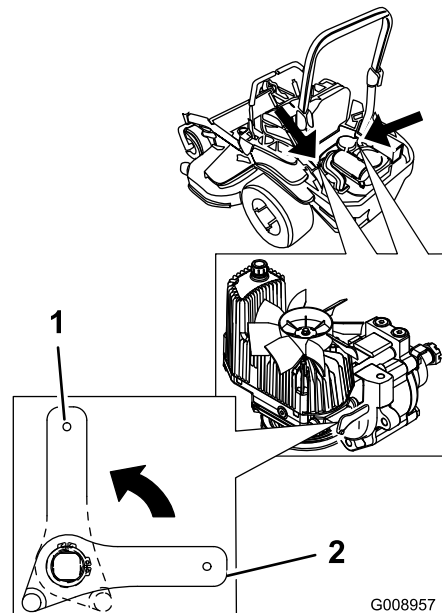

Figure 36
2. Rotate the release-valve levers vertically to push the machine. This allows hydraulic fluid to bypass the pump, enabling the wheels to turn (Figure 36).
4. Rotate the release valve levers horizontally to run the machine (Figure 36).